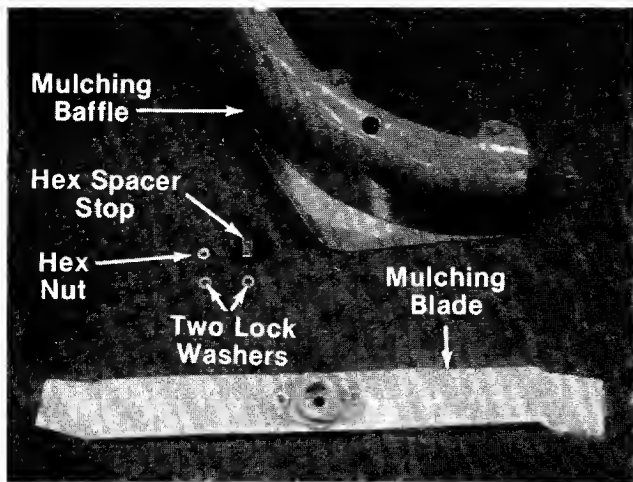

FIGURE 13.
4. For normal mowing, you should have removed the items shown in figure 13. Have the standard blade installed and the chute deflector down.